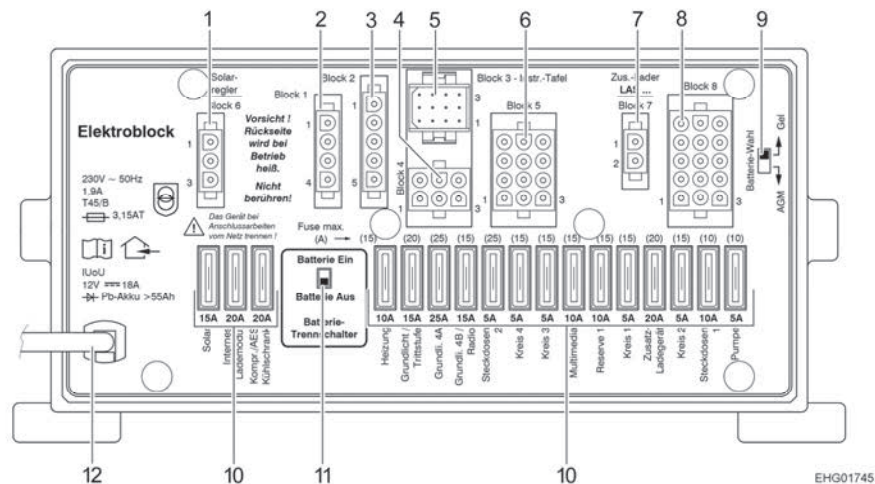

Fig. 104 Transformer/rectifier (TEB310), illustration similar
- Push the battery cut-off switch upwards: Battery On ("Batterie Ein"). Battery cut-off switch, see **Fig. 104,11**.